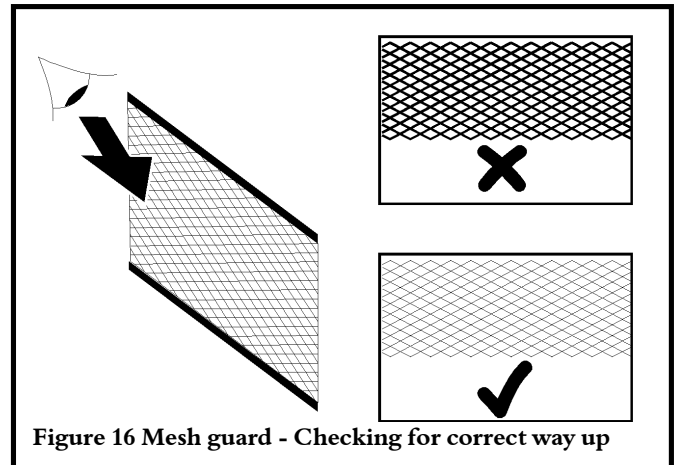

Figure 16 Mesh guard - Checking for correct way up
- 6) Replace the guard and mantle. Make sure the guard is replaced the correct way up. If it is fitted upside down, the mesh will considerably reduce the visibility of the burner flames (See figure 16).
2. If the mesh guard is removed, make sure it is replaced the correct way up. If it is fitted upside down, the mesh will considerably reduce the visibility of the burner flames (See figure 16).